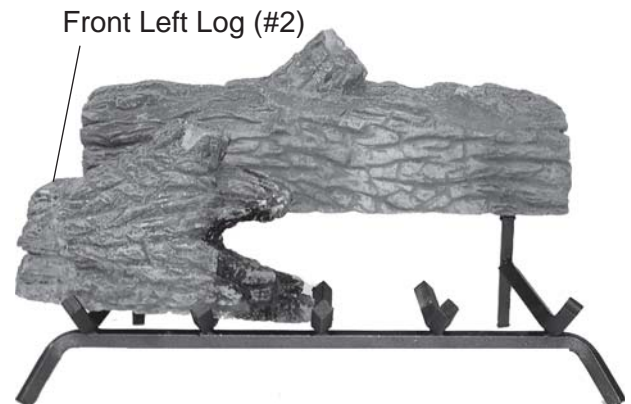

Figure 20 - Placing Front Left Log (#2) on Grate
3. Place front left log #2 on the front of the grate and to the left. *See Figure 20.*